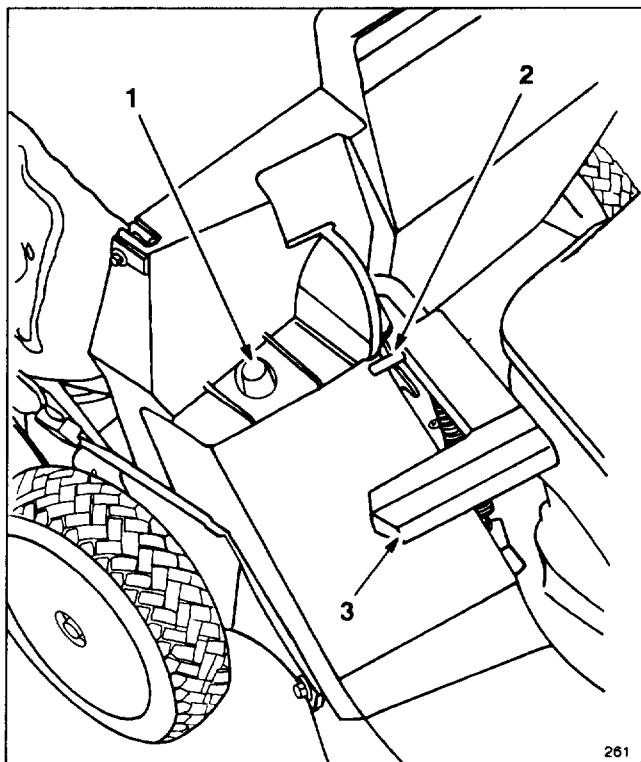

Figure 10
2. Ensure discharge door handle is fully forward and pin is engaged in catch (Fig. 10).
3. INSTALLING BAG—Slide hole in bag frame onto retaining post on housing (Fig. 10) and set rear of bag frame onto lower handle.
5. **EMPTYING BAG**—Stop engine and wait for all parts to stop. Raise discharge door handle and move it forward to engage the locking pin with catch (Fig. 10). Grasp handle at front and rear of bag and lift bag off mower. Gradually tip bag forward to empty clippings.